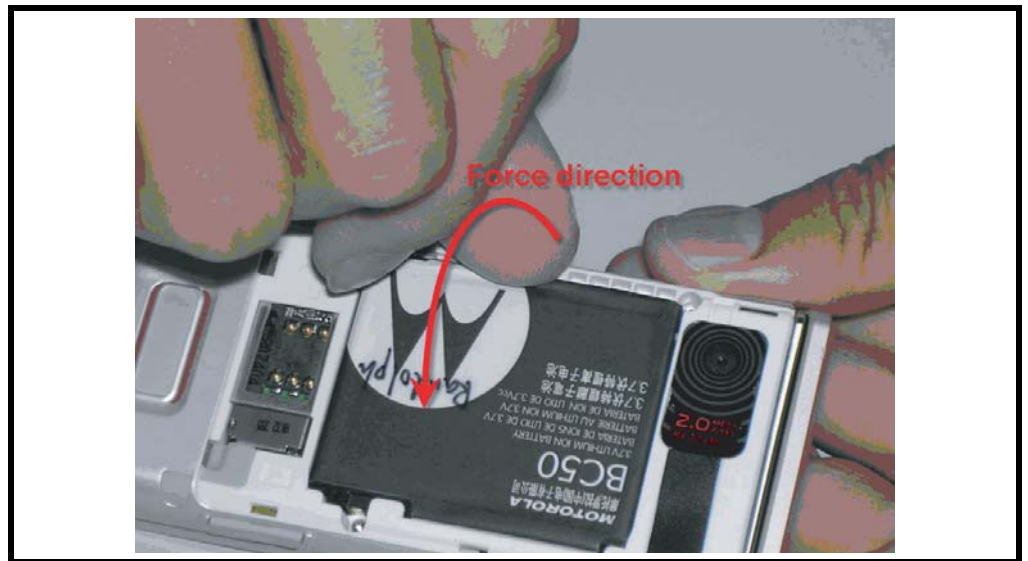

Figure 7. Removing the Battery
1. Lift the side of the battery first, then remove it from the phone. See figure 7.